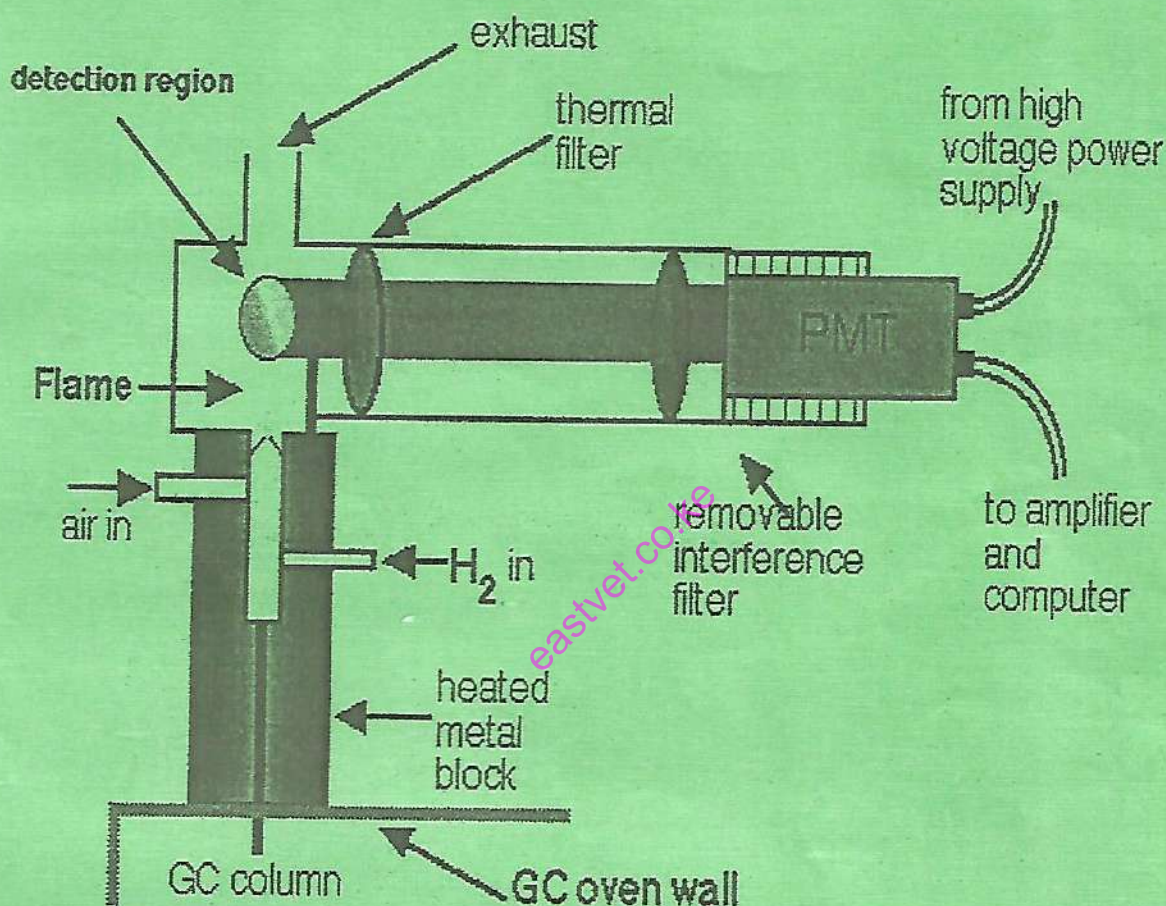

Figure 6
15. Figure 6 shows a type of detector used in gas chromatography.